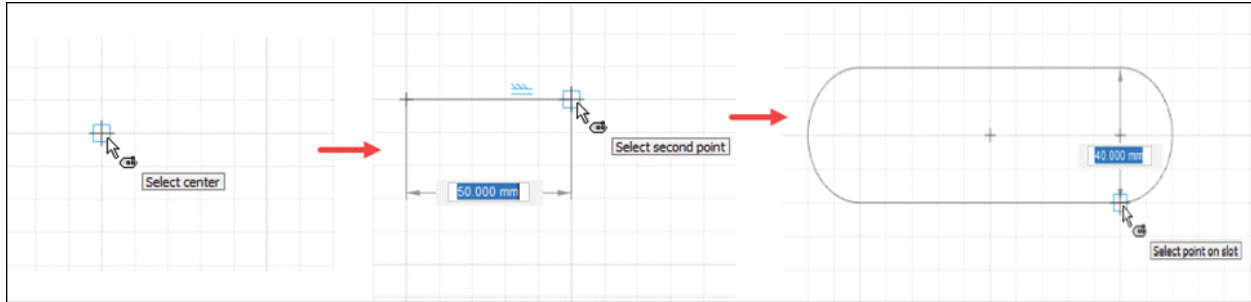

Figure-34. Creation of center point slot
- Click on the screen to specify the center of slot; refer to Figure-34.